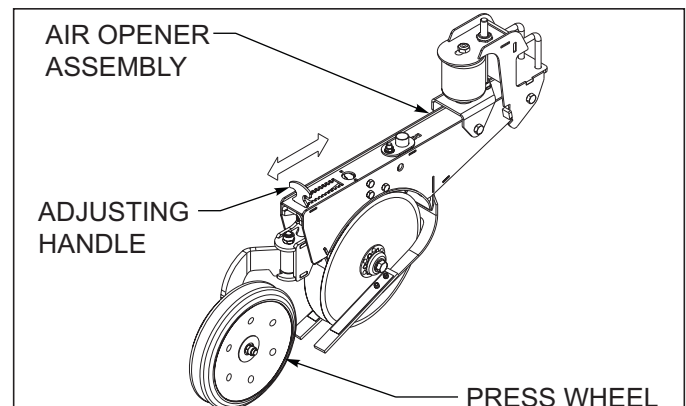

Figure 4-24: Press Wheel Adjustment
1. The seeding depth of each individual opener is controlled by the press wheel depth adjustment *See Figure 4-24.* To change the depth of each press wheel, raise the openers so there is not any weight on the press wheel. Pull up on the adjusting handle and slide the depth stop forward or rearward to obtain the desired seeding depth. Each notch represents approximately 5/16" in depth. Slide the handle forward for shallower seed placement, and rearward for deeper seed placement.